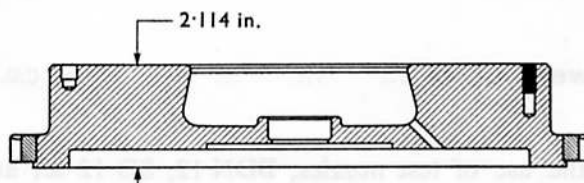

Fig. D.10. Flywheel machining data diagram
is not reduced below that shown in Fig. D.10, see below.
**Flywheel—Minimum thickness after refacing** ... .. 2.114 in. (Fig. D.10)